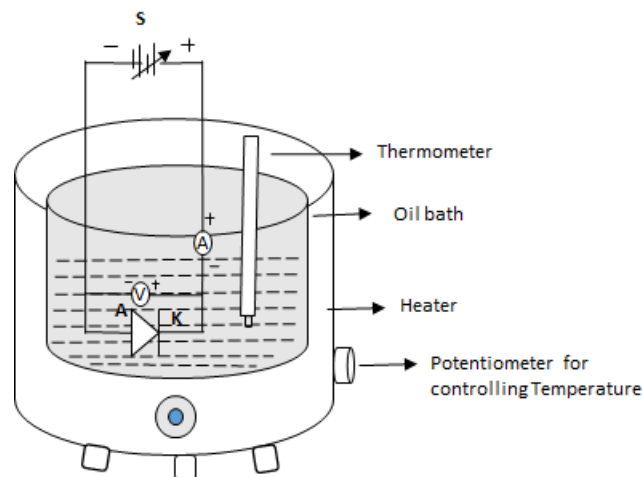

Figure 9.1: Energy gap experiment setup diagram.
4. Place the oil filled beaker in oven. Switch ON the oven (shown in above figure 9.1 ) and heat the oil up to  $50^\circ\text{C}$  then switch off the oven. (even though the temperature of oil raises up to  $100^\circ\text{C}$ )